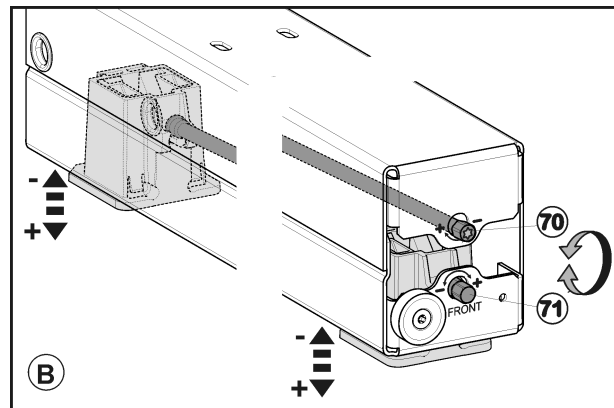

Fig. 45
- Align the height of both appliances evenly using the four roller bases. Use the upper adjustment setting ($1/4$ " Fig. 45 (70) for the rear adjustment foot and the lower adjustment setting ($1/4$ " Fig. 45 (71) for the front adjustment foot. Turn clockwise to raise and counter-clockwise to lower. Maximum adjustable height: $5/8$ in (16 mm).